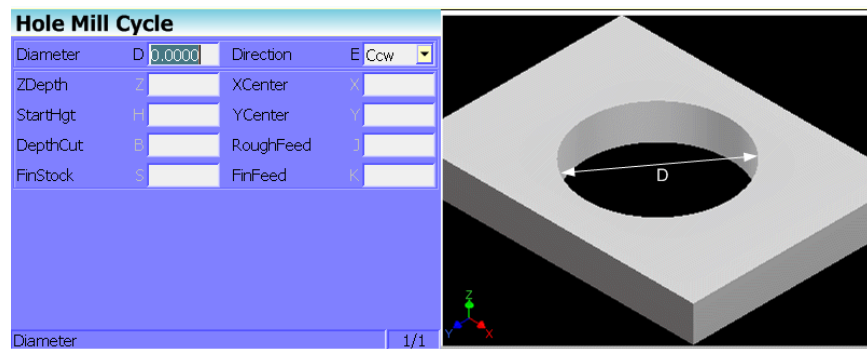

Figure 4-20, Hole Mill Cycle Graphic Menu
2. Highlight **Hole** and press **ENTER** to display the Hole Mill Cycle Graphic Menu. Refer to **Figure 4-20**.